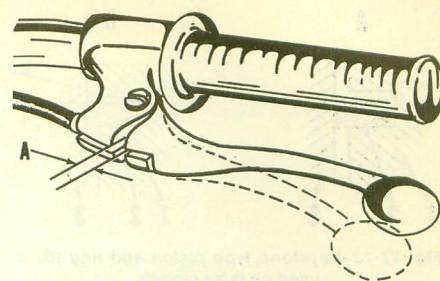
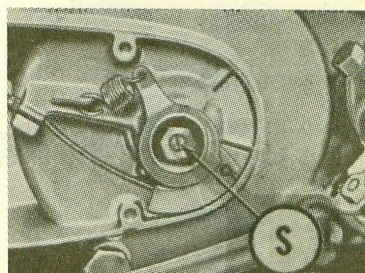

Fig. Y7-9—The clutch hand lever should have 2-3mm free play at (A).
Fig. Y7-10—The clutch adjusting screw (S) is located under the cover on left side of engine.
**CLUTCH CONTROLS.** The clutch hand lever should have 1/16-1/8 inch free play at (A—Fig. Y7-9). To adjust, remove the cover from left side of engine and loosen lock nut. Turn the adjusting screw (S—Fig. Y7-10) in until slight resistance is felt, then back screw out ¼ turn and tighten lock nut.
Turn the cable guide at hand lever end of cable until the hand lever free play (A—Fig. Y7-9) is correct.